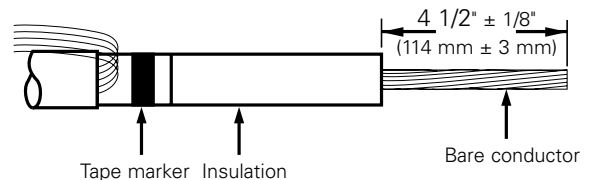

Figure 17. Line illustration of bare conductor length.
- Remove insulation exposing bare conductor to length of 4 1/2" (114 mm). Refer to Figure 17.